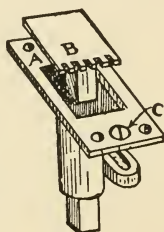

FIG. 6.
**A Bench-stop** of some sort fastened to the top of the bench will be found useful to push work against while planing it, when it is not convenient to use the vise. Figures 6, 7, and 8 show the forms of stops most commonly used by carpenters. Of these the metal stop shown in Fig. 6 is the most satisfactory, as it can be adjusted to different heights. It costs but little and is easily put in place. A mortise is made in the top of the bench to receive the lower portion of the stop, and the plate *A* is set flush with the bench-top and held in